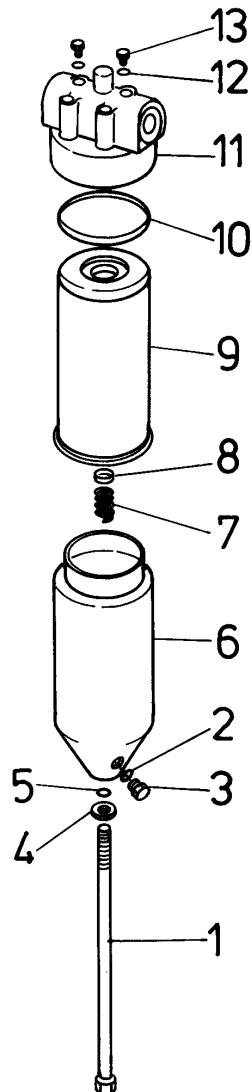

Fig. 5.44. Transmission Oil Pressure Filters
2. Clean the outside of filter case (6, Fig. 5.44) and head (11).
3. Remove drain plug (3) and O-ring (2) allowing oil to drain completely from the filter case.
4. Remove center bolt (1), washer (4), and O-ring (5) from the case.
5. Remove case (6), spring (7), element (9), gasket (8), and large O-ring (10) from head (11).
6. Discard element (9).
7. Place spring (7), case (6), drain plug (3), washer (4), and center bolt 1 in a solvent bath. Wash out any sludge that has accumulated in case (6). Wipe the inside of head (11) clean. Dry all parts thoroughly.
8. Insert spring (7) squarely into the bottom of case (6). Install a new gasket (8) into one end plate of new filter element (9). Place the element into the case. Be sure the element is seated squarely on top of spring (7) in the bottom of the case.
9. Install large O-ring (10) into the head.
10. Slide case (6) with all the preassembled parts within into the head assembly.
11. Place washer (4) and O-ring (5) onto the center bolt into the bottom of the case. Torque the bolt to 65 - 88 [Nm].
12. Install drain plug (3) and O-ring (2) into the case.